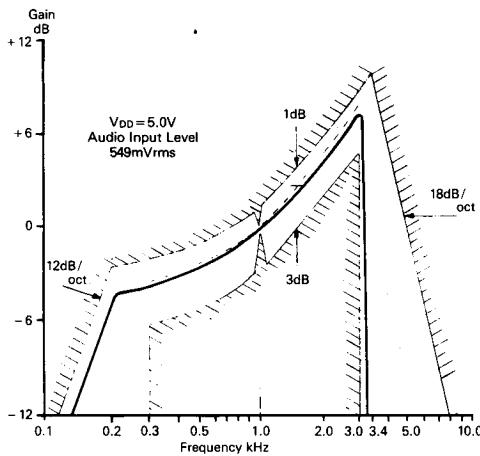

Fig. 4 Typical Audio Frequency Response of Transmit Path in 'Clear'
2. 'Clear' channel inputs are shown with Ch1 (pre-emphasis) and Ch2 (de-emphasis) components. See figures 4 and 5.
Figure 4 shows the FX304 'Clear' path response compared with the Net-C specification, using Pre-emphasis components at the input with a time constant of 200 μ s. See figure 2.